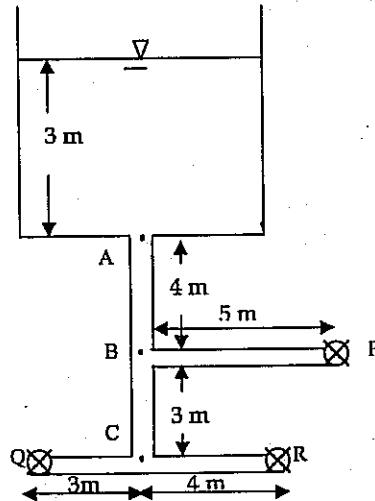

Figure 8
8) Water is supplied from a Tank X to taps P, Q and R through the pipes AB, BP, BC, CQ and CR as shown in Figure 8. All the pipes have a diameter of 25 mm and a friction factor of 0.01. The lengths of the pipes and the elevations of the taps and the free surface of the tank are given in the figure.